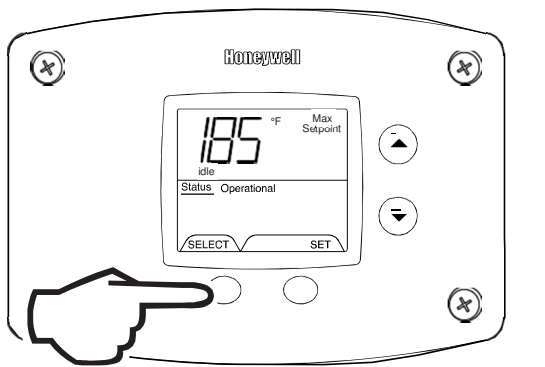

Figure 40 'Max Setpoint' continues to flash
2. Press 'Set' button to enter setting mode. 'Max Setpoint' will flash to indicate setting mode (Fig. 40).